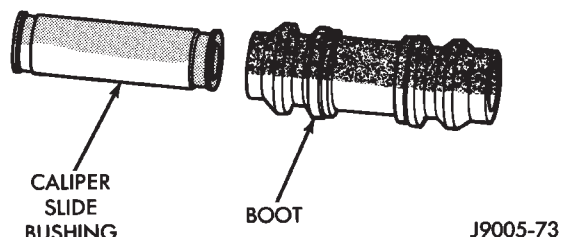

Fig. 49 Mounting Bolt Bushing And Boot
(7) Remove caliper mounting bolt bushings and boots (Fig. 49).